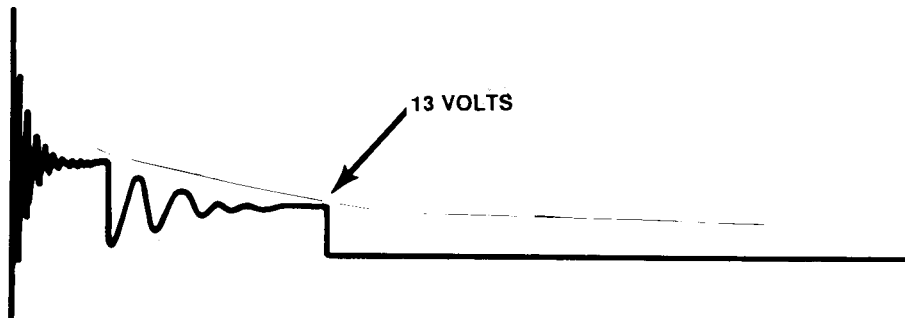

Figure 4-20. Dwell Section of pattern.
- 3* Adjust PIN-POINT GAIN, on the Analog Scope Bd. until the section of the pattern as shown Figure 4-20 is at 13 volts +/- .50 volts.